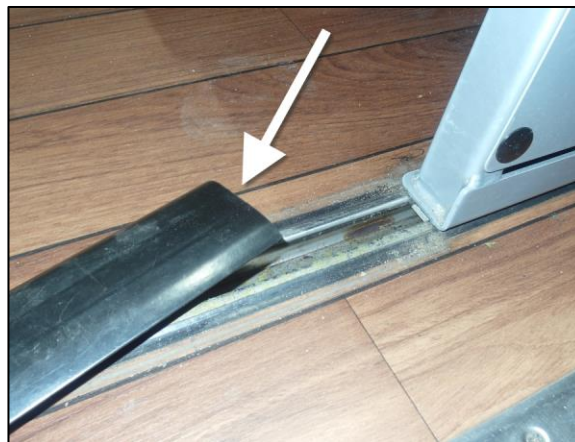

FIGURE 28
44. Reinstall rail cover in front of the seat pedestal (Figure 28).